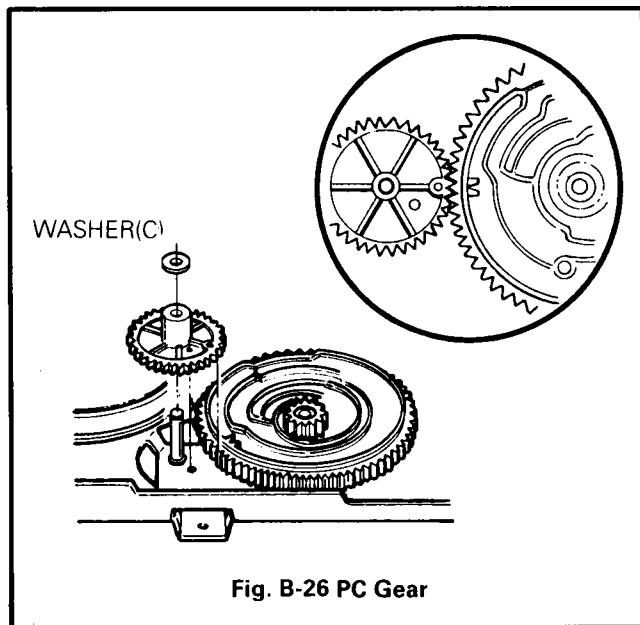

Fig. B-26 PC Gear
- ① Align the Projection of Rack Gear T with the hole of Loading Gear.
- ② Drive the Rack Gear F.L in the direction of arrow(D).
- ③ Hole of Cam should be aligned with the hole of chassis, and the groove (■) of Cam Gear should be aligned with the hole of PC Gear (Fig. B-26)
26. PC Gear (Fig. B-26)